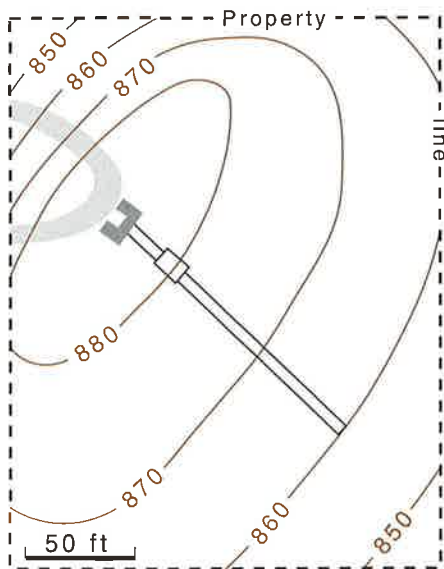

Figure 11-8. In this case, a drain pipe runs directly downslope, as shown by contours.
Q11-14. (A) How can a septic drain pipe be designed to safely run downslope as in Figure 11-8? (B) Sketch a cross-section running the length of the pipe in your design.